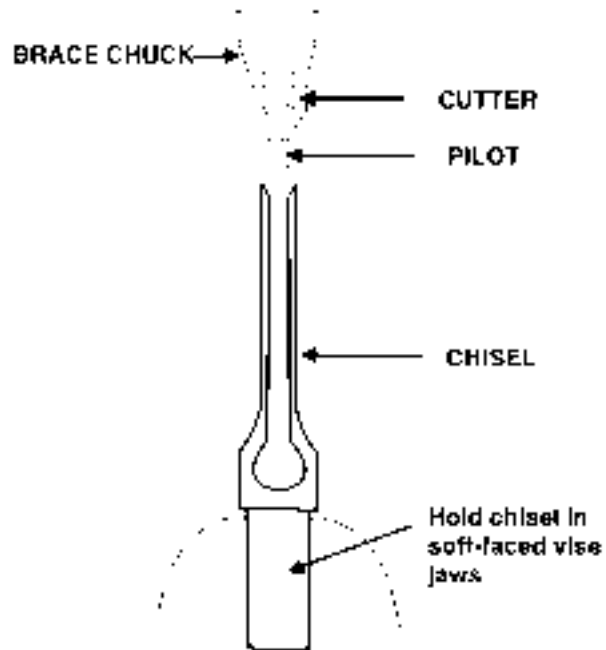

FIGURE 9
2. Sharpen the chisel with a mortise chisel cutter with the correct size pilot. (Pilot size will differ depending on the size of your chisel). Two or three turns of the cutter in a carpenter's brace chuck should be enough to sharpen the chisel, Figure 9.